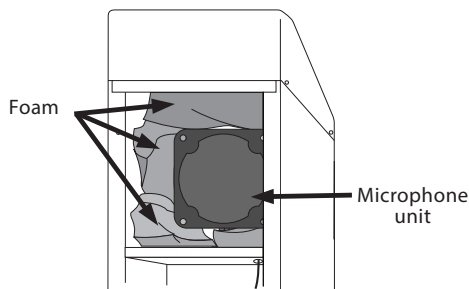

Figure 8.
5. Use the enclosed foam pieces as acoustic treatment around the microphone unit as shown in Figure 8. Pack the foam around the top, sides and back of the microphone unit, filling the upper compartment before closing the speaker post.